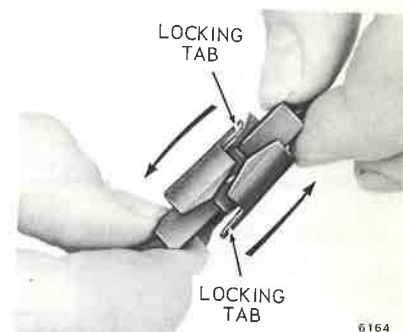

Figure 4-11. Disconnecting Packard Connector
- Disconnect coil primary leads by lifting up on the two Packard connector locking tabs and sliding connectors apart. See Figure 4-11. No. 1 cylinder (blue lead) to upper coil, No. 2 cylinder blue/white stripe lead to lower coil.